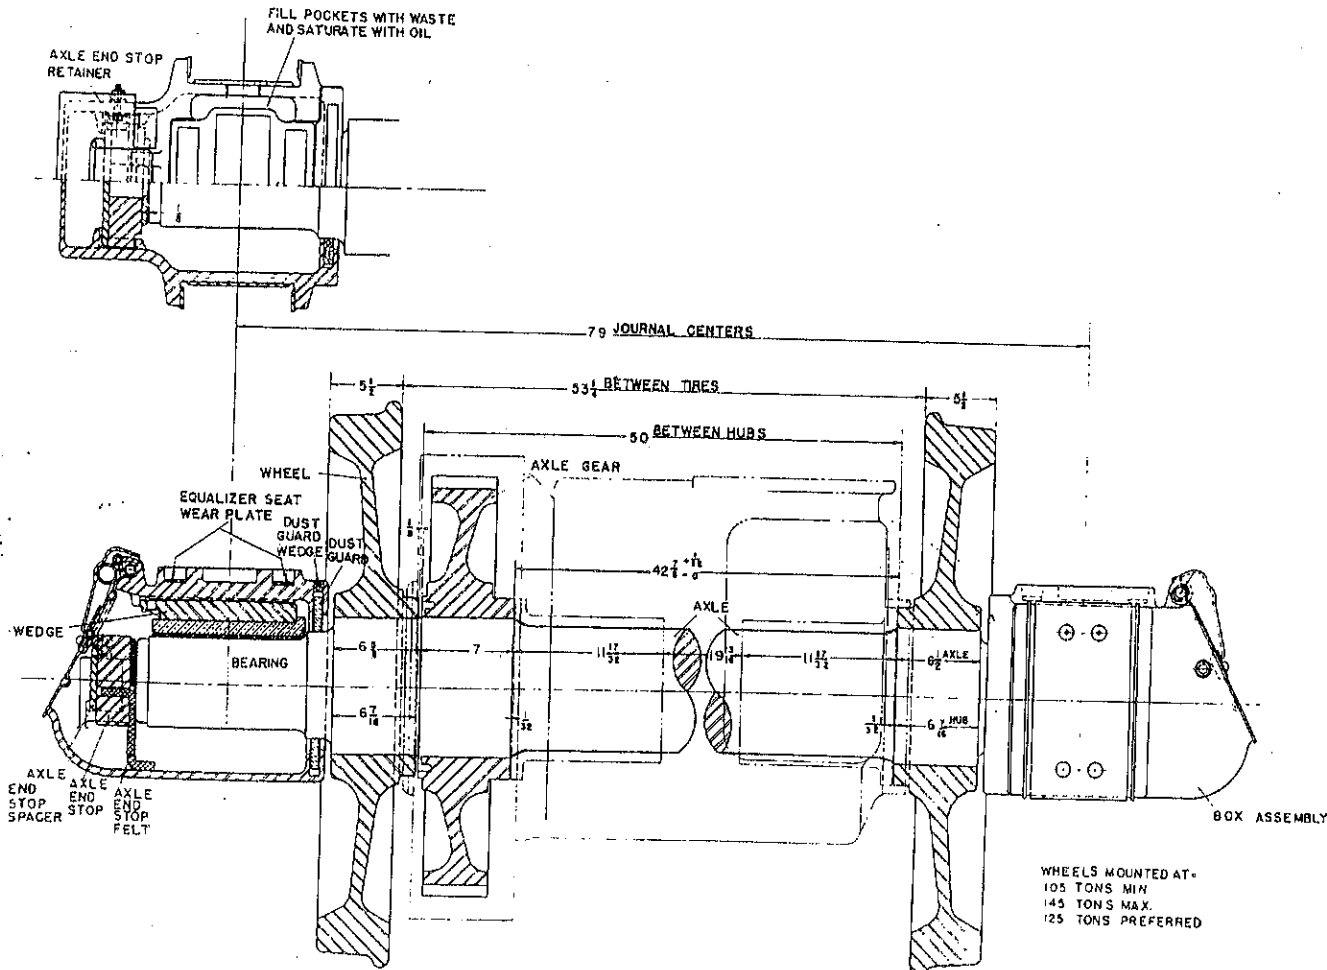

Fig. 39 - WHEEL, AXLE AND BOX ASSEMBLY
4. For wheel mounting refer to Fig. 39.